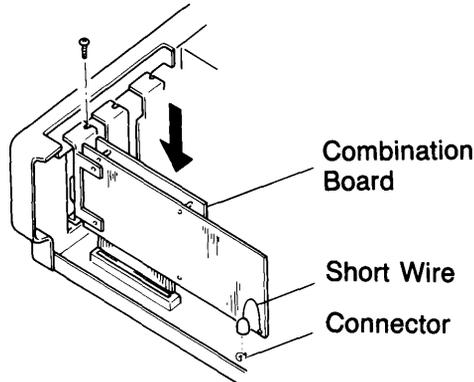

Figure 6. Installation of Combination Board
5. As you look at the computer from the rear, check the upper right corner of the main circuit board for a small, multi-pronged metal connector (see Figure 6).
8. If you did not remove the wire mentioned in Step 5, fasten the free end of it to one prong of the multi-pronged connector (see Figure 6).